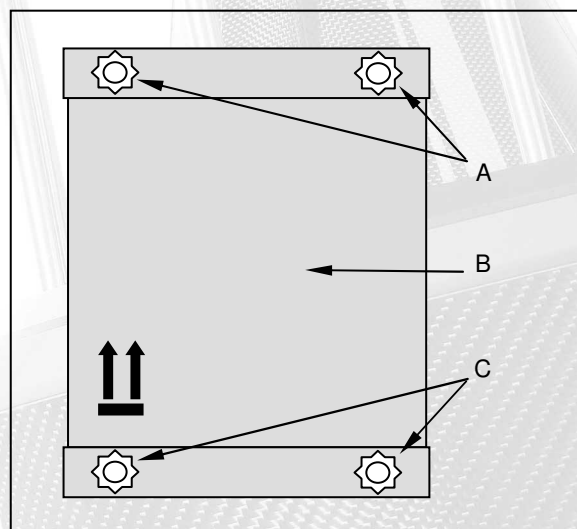

Figure 1. PQS-202 Mk II Shipping Carton
Each loudspeaker is supplied in an individual shipping carton. This must be kept upright as shown in figure 1. Before opening the carton, please inspect it for damage. If you see any damage, please contact the supplying audio dealer immediately and provide them with a full description of the damage. Do not attempt to unpack the loudspeakers until you have spoken with the dealer and have been advised how to proceed.
1. Unscrew and remove the two screw caps on each side of the carton top cover – item A in figure 1.
3. Remove the foam packing piece from the top of the main body of the carton - item B in figure 1.
4. Unscrew and remove the two screw caps on each side of the carton lower tray – item C in figure 1.
5. Lift off the main body of the carton – item B in figure 1. Make sure that you have sufficient clearance between the top of the carton and the ceiling above. This may be folded flat for easy storage.